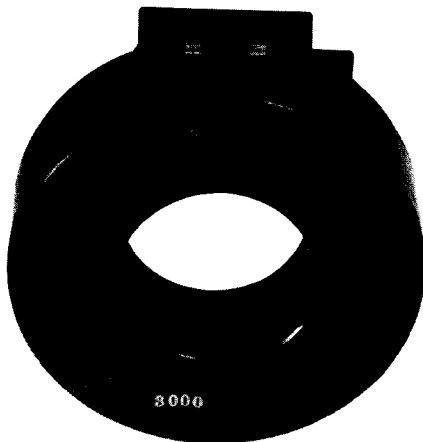

Fig. 18. ECS phase sensor
2. Phase sensors (Fig. 18) are not tapped. As listed in Table 2, each sensor has only a single ampere rating. A different sensor is available for each of the tabulated ampere ratings, which span the same range as SST.